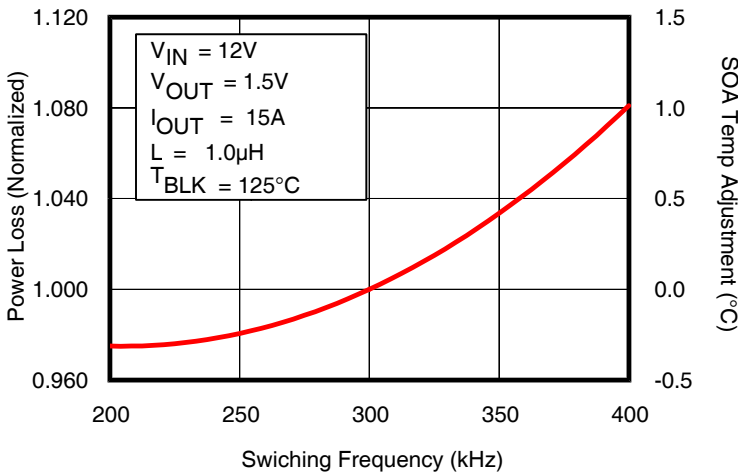

Fig. 6: Normalized Power Loss vs. Frequency
- (Fig. 6) Normalized power loss for frequency \approx 1.08
- (Fig. 6) Normalized SOA Temperature for frequency $\approx +1.0^{\circ}C$